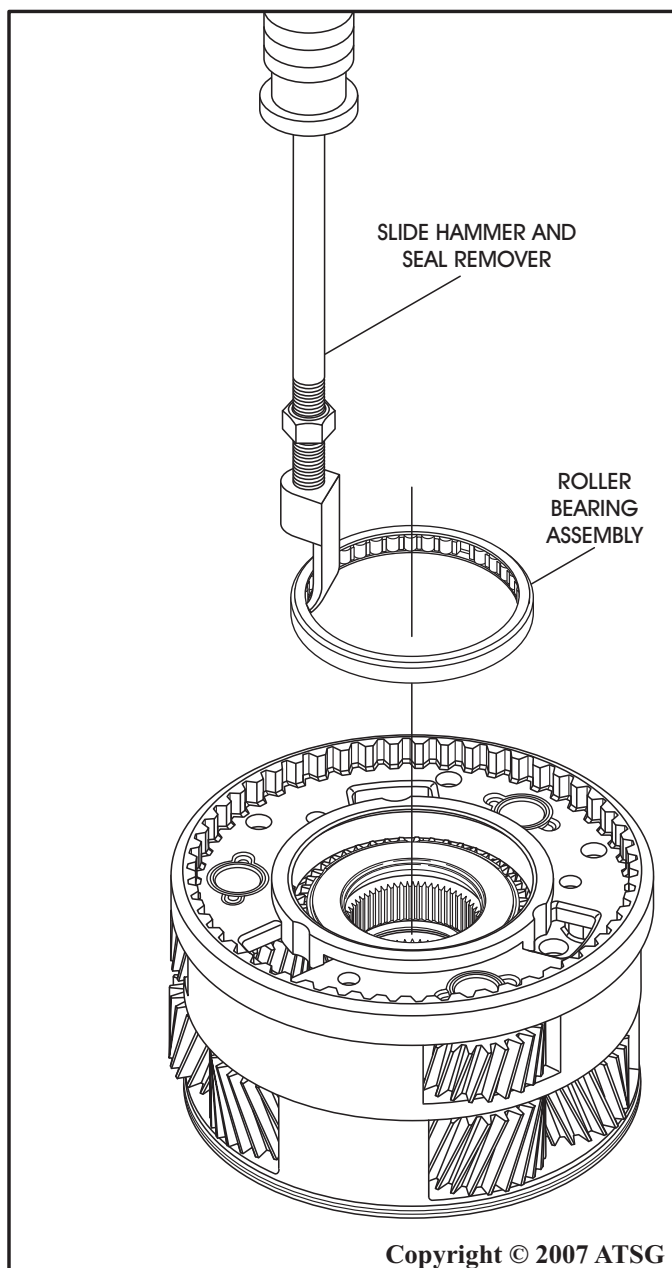

Figure 125
6. Remove and discard the center support roller bearing using a slide hammer, as shown in Figure 125.